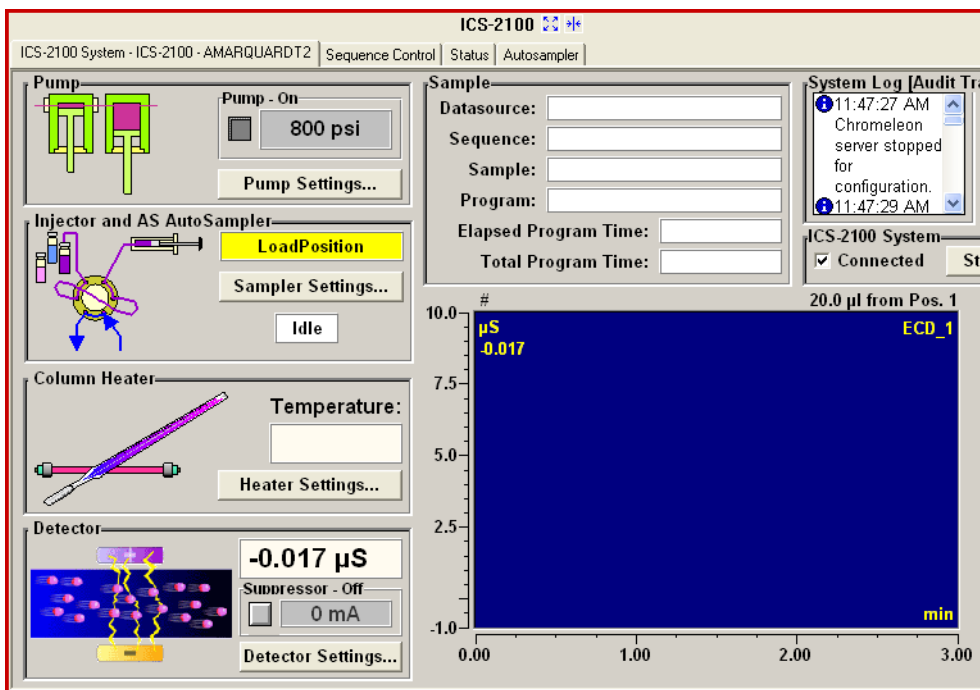

Figure 25. IC System Panel on the Chromeleon Panel Tabset
- Click the **ICS-2100** tab on the panel tabset to view the IC system panel (see Figure 25).